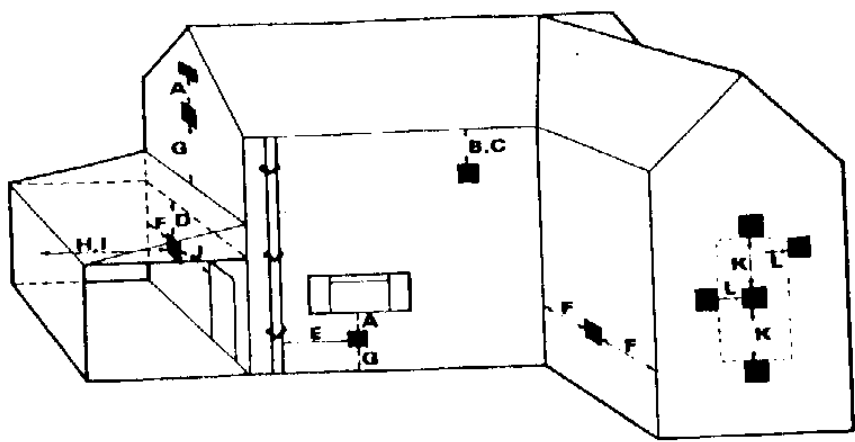

Fig. 1
Replace the two burner inserts ensuring that the base of the fibre block sits inside the two parallel burner ports. Now replace right and left-hand coal supports ensuring that the rebate is facing downwards and located over the fibre support channel flange. The correct location of the coal supports will be verified by the presence of a gap approximately 6mm between the front edge of the coal support and the rear edge of the burner. Note that there are two additional stops provided for the front edge of the coal supports (fig. 1). The front simulated coal can now be positioned on the support plate form immediately above the control panel, (Fig. 1). Note that the two tapered edges of the simulated coal locate between the two raised flanges.
4. If the terminal is fitted within 850mm of a plastic gutter or within 450mm of painted eaves or a painted gutter an aluminium shield at least 750mm long should be fitted to the underside of the gutter or painted surface. (Dimensions B & C in Fig. 1)
5. If a terminal is fitted less than 2m above a balcony, above ground or above a flat roof to which people have access then a suitable terminal guard must be provided. (Dimension G n Fig 1)